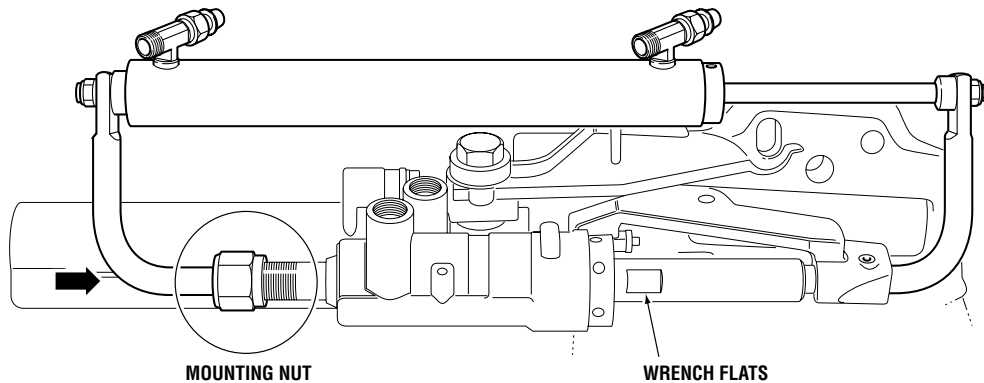

Figure 17.
4. Extend HC5339-3 cylinder as required and insert the short rod into the tilt tube as shown in figure 17.